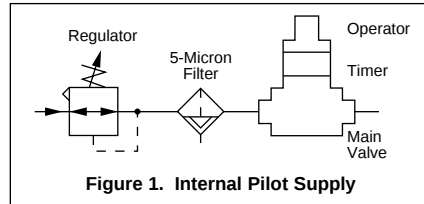

Figure 1. Internal Pilot Supply
- * Valves with an internal pilot supply are identified by a **C** in the 6th position of the model number. See Figure 1 (on following page) for installation. **ALTERNATE CONFIGURATION - MODE - 23 ONE SHOT TIME DELAY:** The Alternate Configuration of Model 23 Time Delay (see next page for description) requires an unrestricted internal pilot supply passage. Select the desired valve model number as described above, then change the 6th position of the model number to **B**, i.e. D1022B-23-A1, when ordering Model 23 Alternate Configuration. See figure 1 for installation. When used with valves that have an external pilot supply (designated by an **H** or **J** in the 6th position of the valve model number), the pilot supply must be connected to the operator (Figure 2). Zero to five second time delays do not have an external pilot supply port.